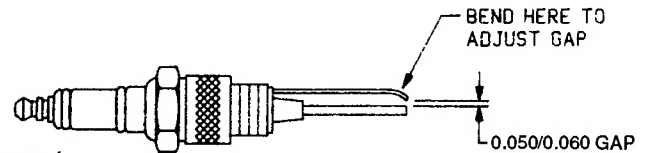

Figure 4
2. Remove the spark plug from the burner head, and check the gap between the electrodes, as shown in Figure 4.
3. Adjust the gap by bending the outside electrodes where shown in Figure 4. If you do not install the plug immediately, protect it from damage until it is re-installed.